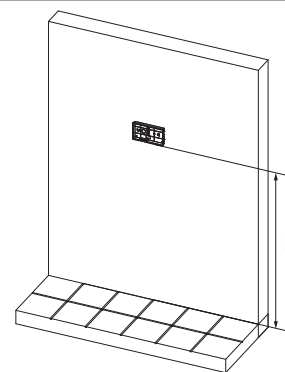
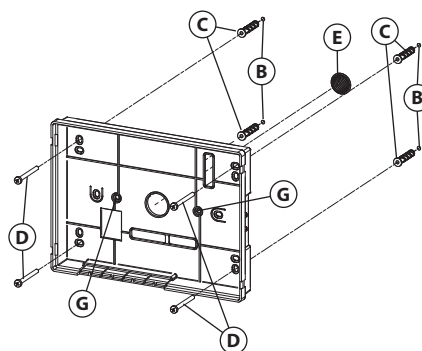

Fig. 3
Fig. 4
3. Put the base of the unit on the wall at approx 135cm from the finished floor (Fig. 3) to match the points for the fixing holes (B) (Fig. 4) remembering that the wires (E) (Fig. 4) must be fed through the large hole (F) (Fig. 4). If you use the flush mounting box 503, embed it into the wall vertically at approx. 140cm from the finished floor and the base.
4. Following Fig. 4, make the holes (B), insert the wall plugs (C) and fix the base with the screws (D) feeding the wires (E) through the hole (F). If you have used the box 503, fix the base to the wall through the holes (G) using the screws (D).
1. Remove the terminal side covers by unscrewing the retaining screws (**Fig. 3**);
2. Fix the power supply to a DIN rail (**Fig. 4**) or directly to the wall using two expansion type screws (**Fig. 5**);